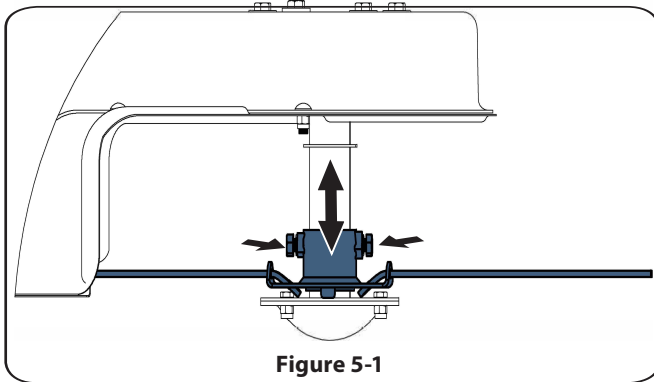

Figure 5-1
2. Slide the spindle upward or downward to the desired position before retightening the bolts. See Figure 5-1.